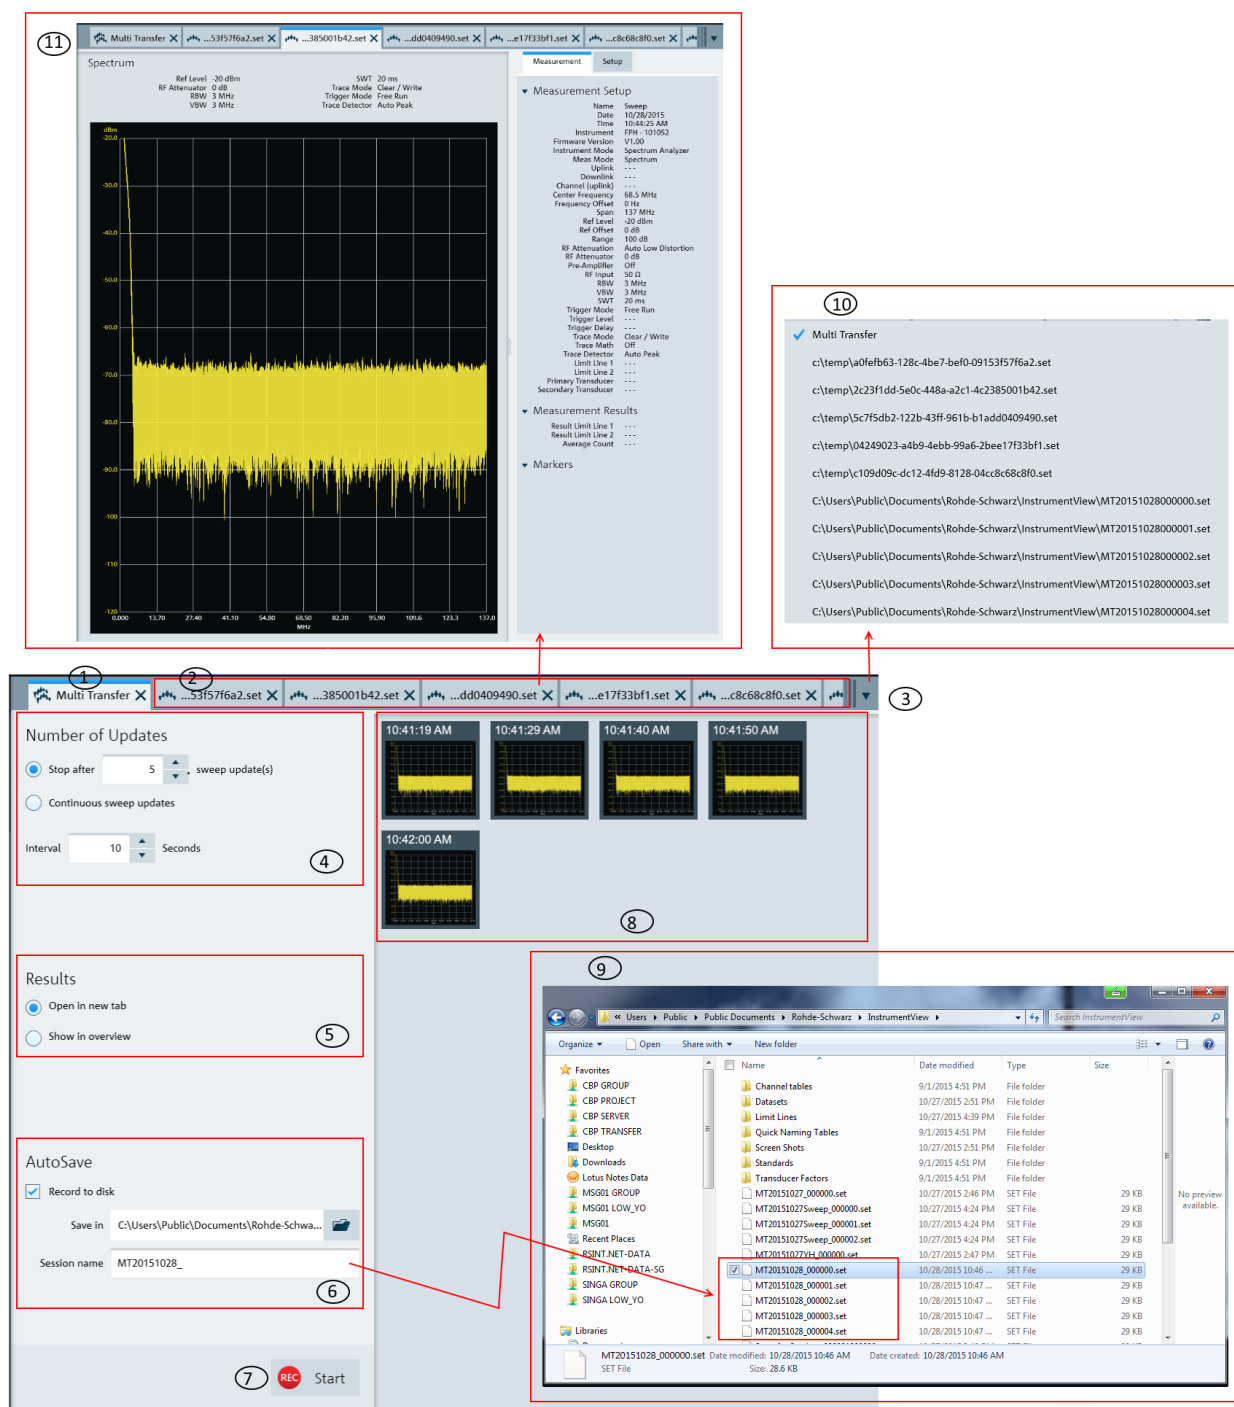

Figure 5-18: Multi-transfer dialog
"View" 	Views the details of the trace measurement file. For viewing, see Chapter 4.3, "Save instrument" , on page 25 for a list of file format supported. When a file is selected to be viewed, a tab is displayed in the header bar of the screen layout. See index 11 of Figure 5-18 .
The "Multi Transfer" menu allows you to capture and save trace measurements from the instrument. See Figure 5-18.
- 2 = Measurement results tab (see index 11 in Figure 5-18)
- The trace measurement in the overview area. See index 8 in Figure 5-18.
- The individual trace measurement result in the "Tab header bar". See index 2 in Figure 5-18.
See index 11 in Figure 5-18.
See index 9 in Figure 5-18 to view the trace measurements captured in the file directory.
Depending on the setting in the "Results" section (see index 5 in Figure 5-18), the trace measurement updates can be displayed in the overview area (see index 8 in Figure 5-18) or individually displayed as a new tab in the tab header bar (see index 2 in Figure 5-18).